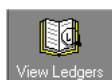

Figure 16-5. View Ledgers button
1. Click the **View Ledgers** (Figure 16-5) button in the **Rule** listbar, select **View Ledgers** from the **Rule** menu, or press **Alt + R, V** on your keyboard.